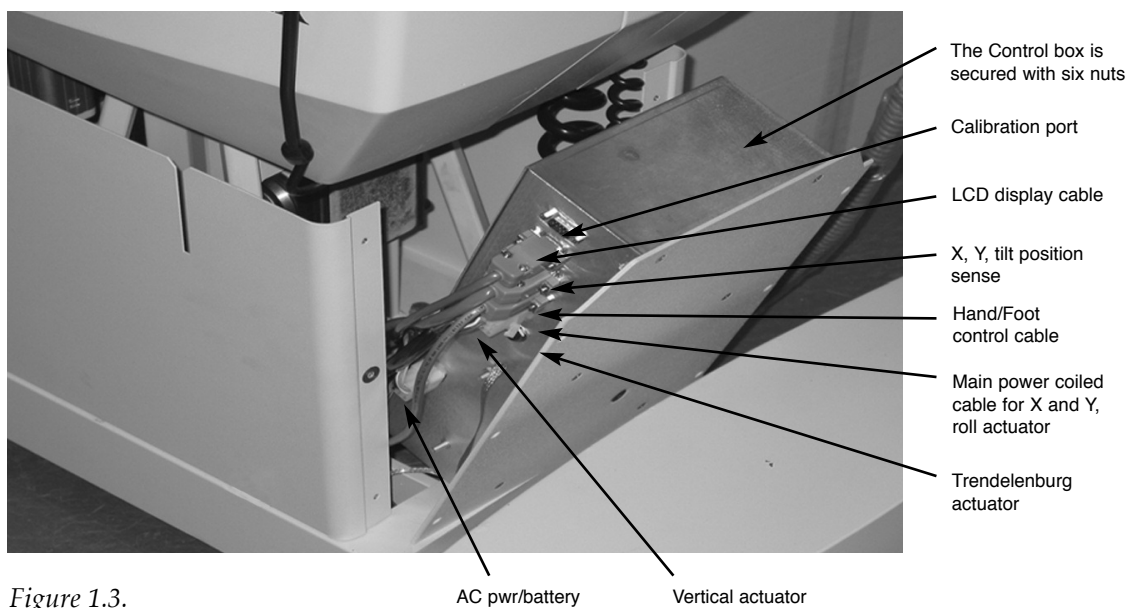

Figure 1.3.
4. Disconnect all cables (see Figure 1.3).